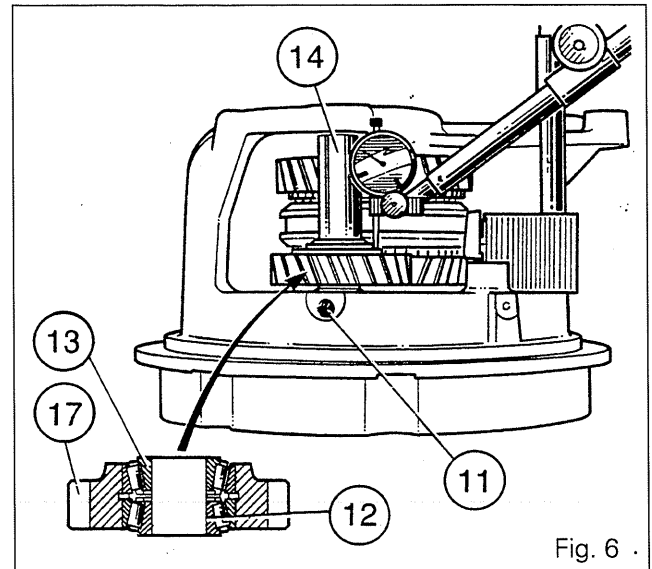

Fig. 6
37. Fit the min. thickness spacer [16] in gear (17), and slide on cups (15) and (18).
38. Install the idler gear (17) as shown in Fig. 6, and the cones (12) and (13) on the housing. Slide shaft (14).
39. Fit and tighten screw (11) (Fig. 6) to a torque of 40 - 56 Nm.
41. Place the dial gauge tip on gear (17) (Fig. 6).
46. Remove gear (17). Drive out cups (15) and (18). Remove ring [16].
49. Fit and tighten screw (11) coated with Loctite 241 to a torque of 40 - 56 Nm.